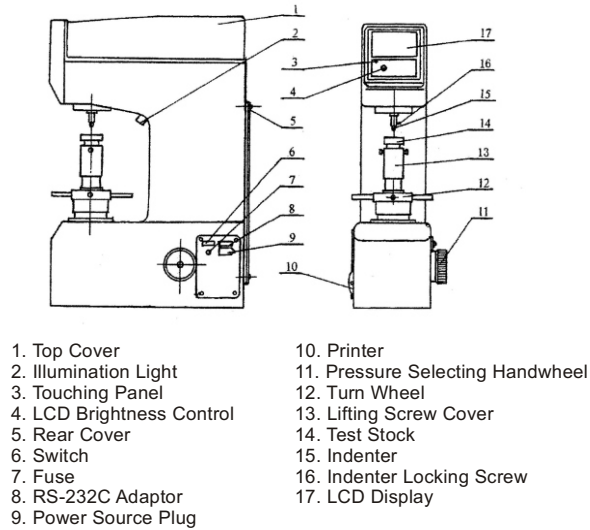

Figure 2
- 4.2.6 After the hardness tester (figure 2) is properly placed, open up and remove the top cover (1). Untie the rubber ring on the displacement sensor which serves as a fastener during transportation. Next open the rear cover (5) and remove the fastening white gauze tape on moveable parts.